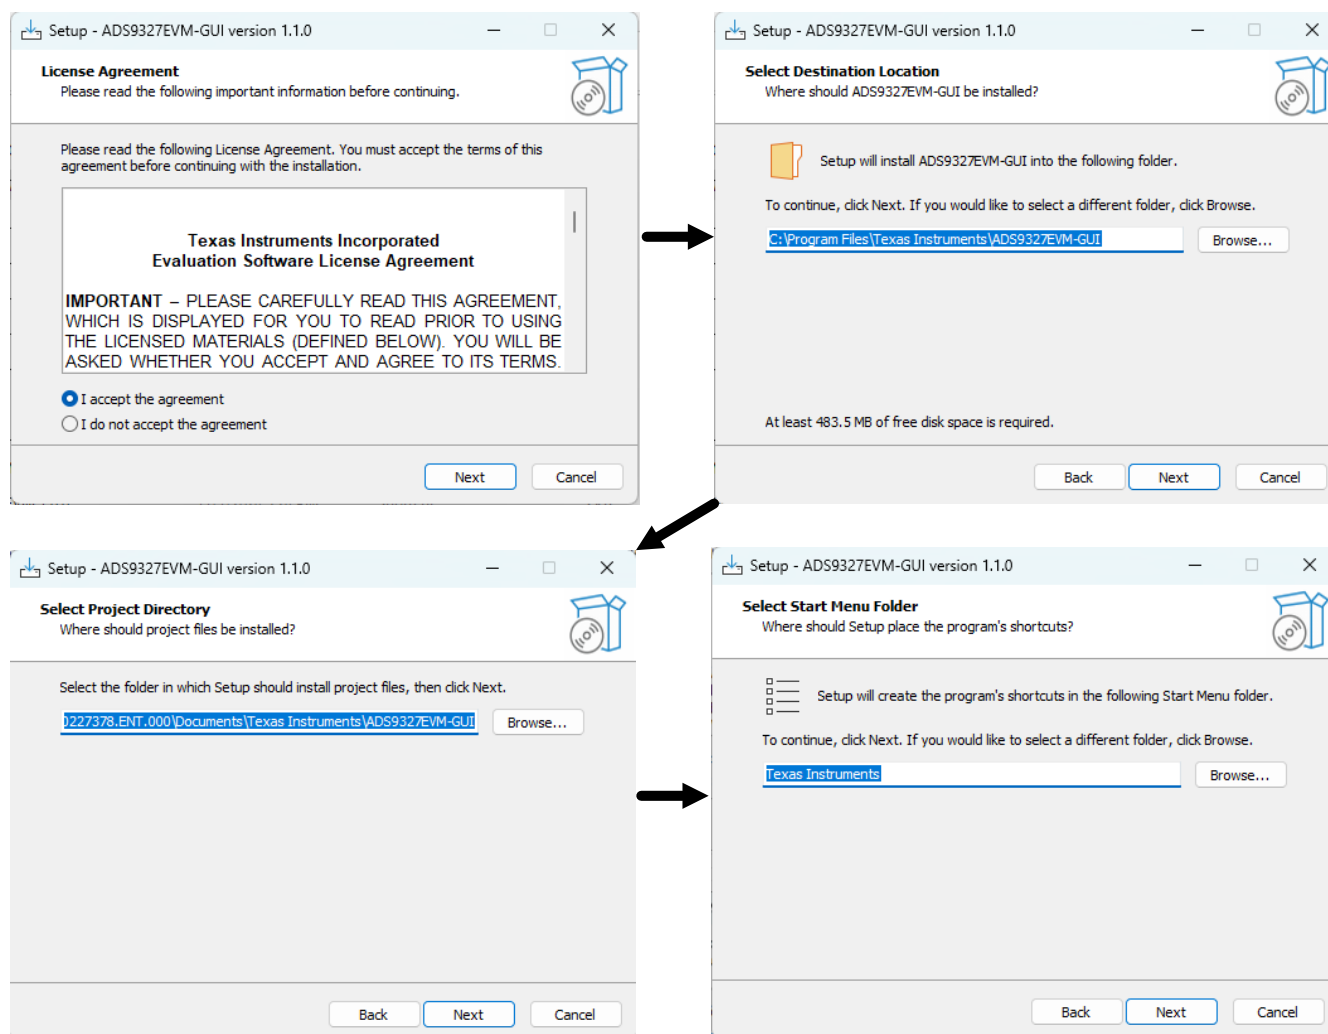
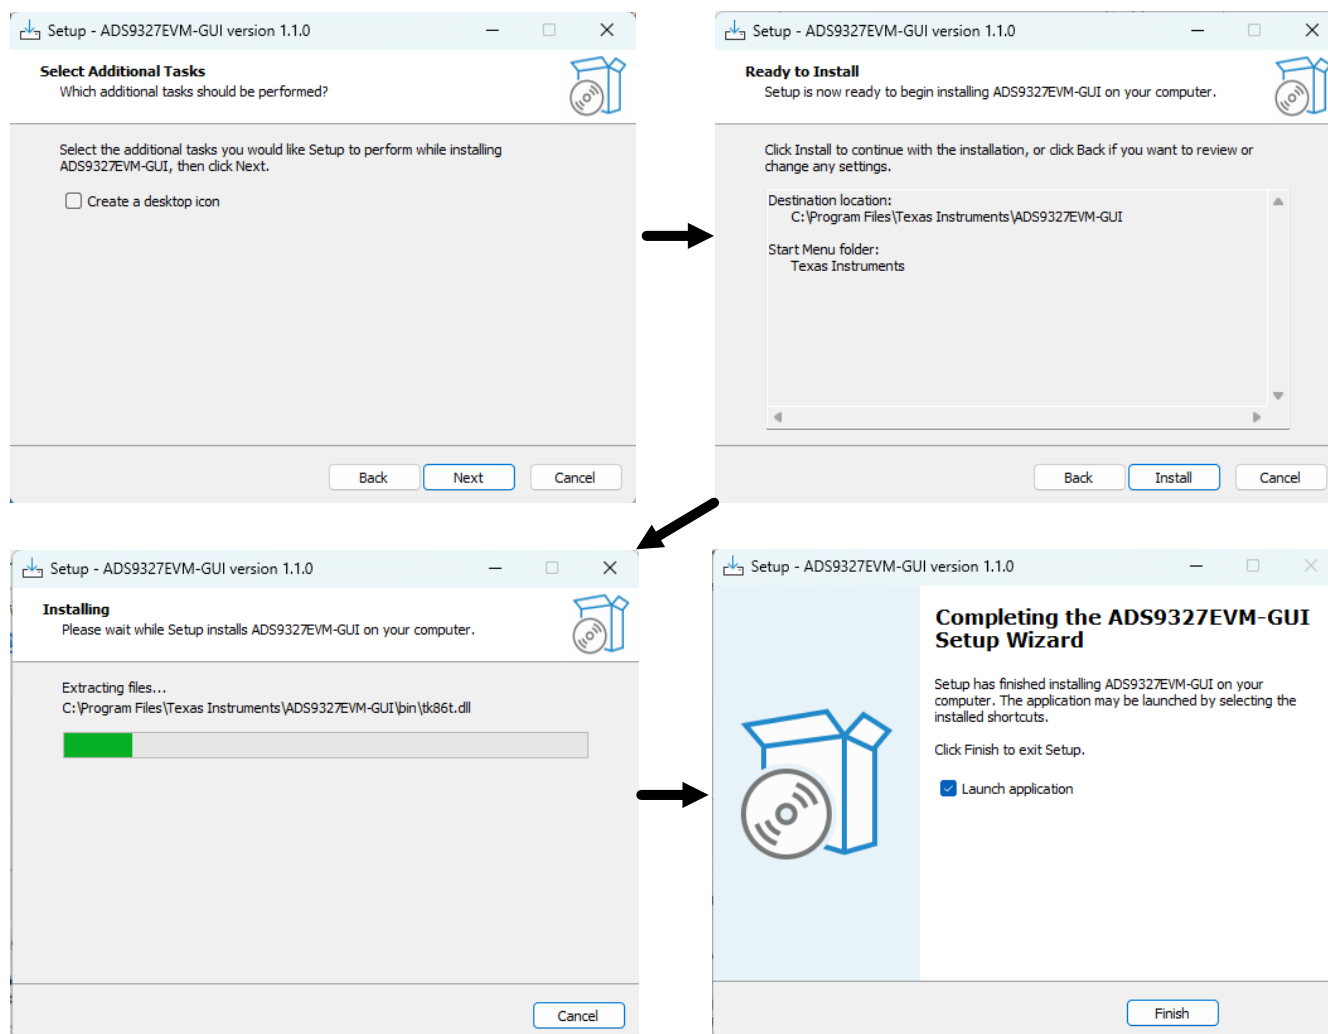

Figure 3-3. Software Installation - Part 1
Figure 3-4. Software Installation - Part 2
This section details the installation and operation of the ADS9327EVM software graphical user interfaces (GUI). These software require the TSWDC155EVM (sold separately) controller to operate. To install the software (as shown in Figure 3-3):
4. At completion, the user launches a readme text file and the application. Figure 3-3 and Figure 3-4 show these steps.